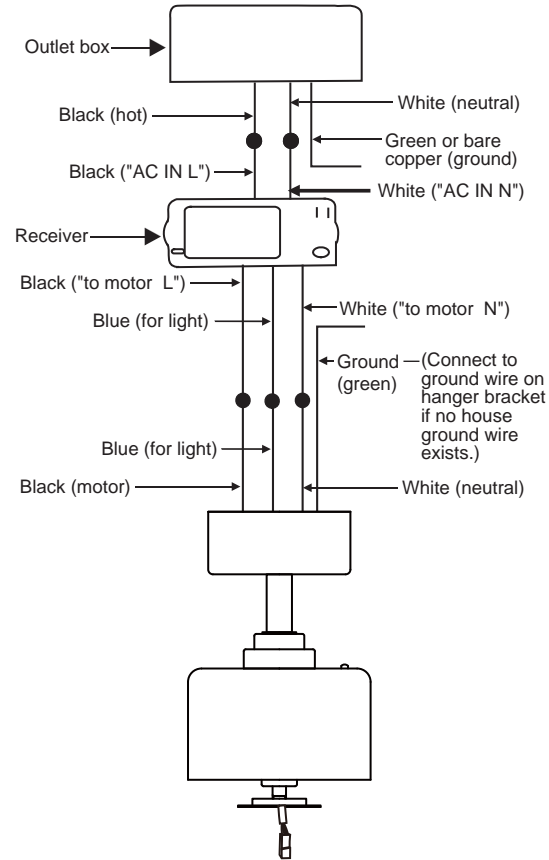

Fig. 14
**Step 2.** Motor to Receiver Electrical Connections: (**Fig. 14**) Connect the black wire from the fan to the black wire marked "TO MOTOR L" on the receiver. Connect the white wire from the fan to the white wire marked "TO MOTOR N" on the receiver. Connect the blue wire from the fan to the blue wire marked "FOR LIGHT" on the receiver. Secure all the wire connections with the plastic wire nuts provided.
**Step 3.** (**Fig. 14**) Receiver to House Supply Wires Electrical Connections: Connect the black (hot) wire from the ceiling to the black wire marked "AC in L" from the receiver. Connect the white (neutral) wire from the ceiling to the white wire marked "AC in N" from the Receiver. Secure the wire connections with the plastic wire nuts provided.
**Step 4.** (**Fig. 14**) If your outlet box has a ground wire (green or bare copper) connect it to the fan ground wires; otherwise connect the hanging bracket ground wire to the mounting bracket. Secure the wire connection with a plastic nut provided. After connecting the wires, spread them apart so that the green and white wires are on one side of the outlet box and black and blue wires are on the other side. Carefully tuck the wire connections up into the outlet box.